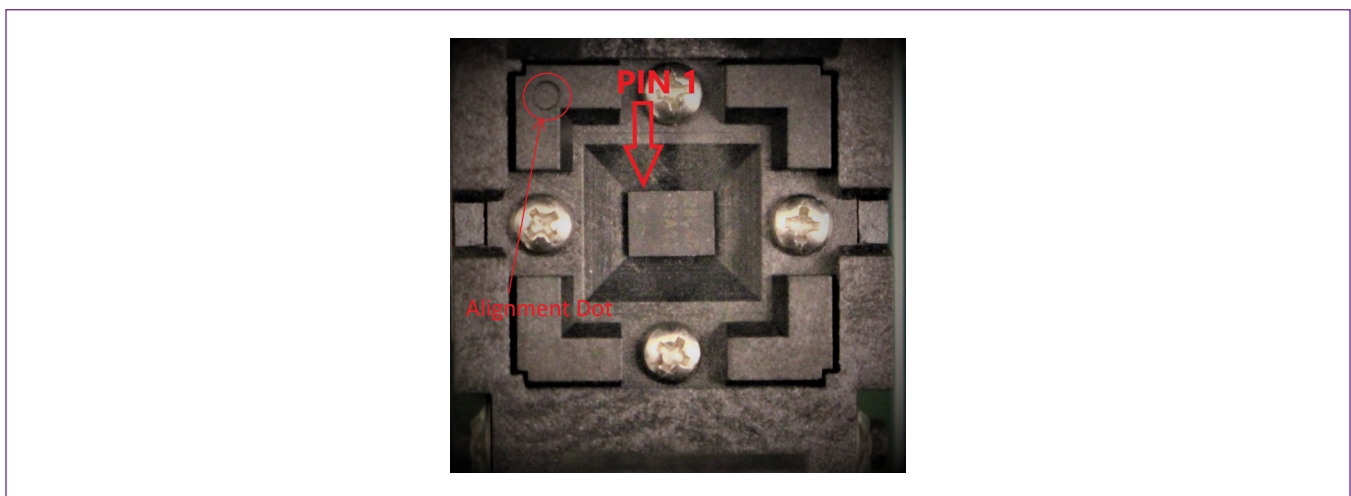

Figure 9. Orientation of the DS28C40 in the Clamshell Socket
- a) Open the socket and insert a DS28C40 into one of the cavities, as shown in Figure 9. **Note:** The plus (+) on the package must be on aligned with the top of the marker in the socket.
The DS28C40 EV Kit Lite Program detects automatically the required hardware on initialization. To exercise a different DS28C40, open the DS9121CQ socket and replace the device (Figure 9). Then click the **Search Device** button to detect then new DS28C40.